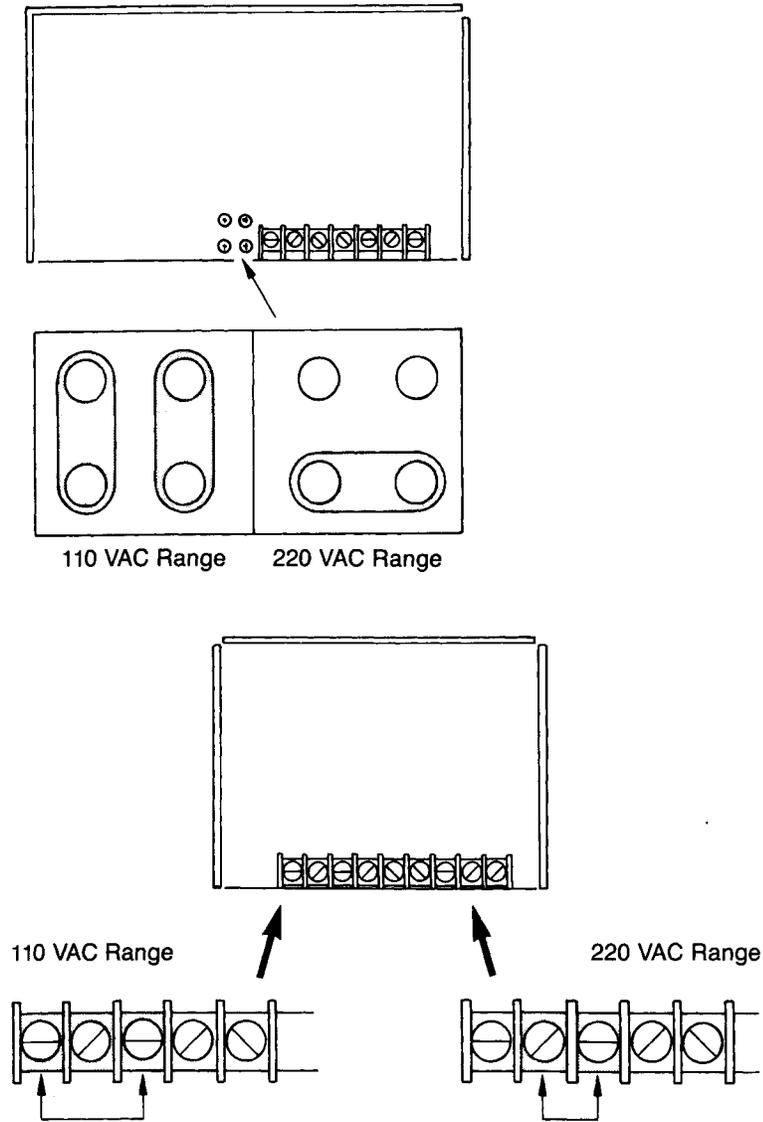

Fig. 10-5. Power Supply Jumpers
5. On the -5V supply (the smaller one), connect the two input jumpers to operate in the 90-132 VAC input voltage range, as shown in Fig. 10-5.
To operate in the 180-264 VAC input voltage range, only one jumper is connected, as shown in Fig. 10-5.